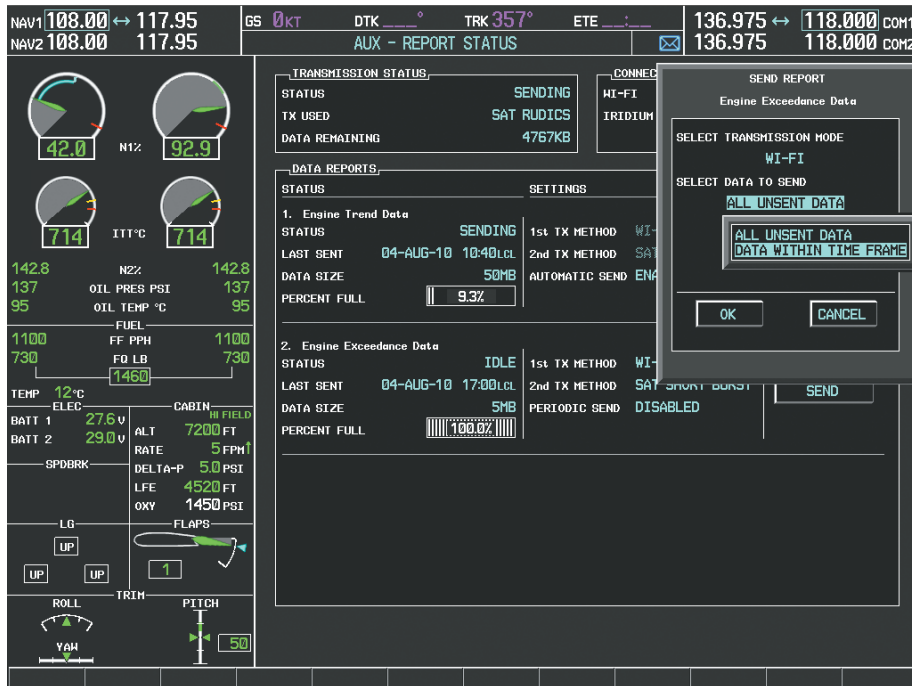

Figure 8-117 Select Data Within a Specific Time Frame
- 3) Press the **ENT** Key. The Send Report window is displayed as shown in Figure 8-117.